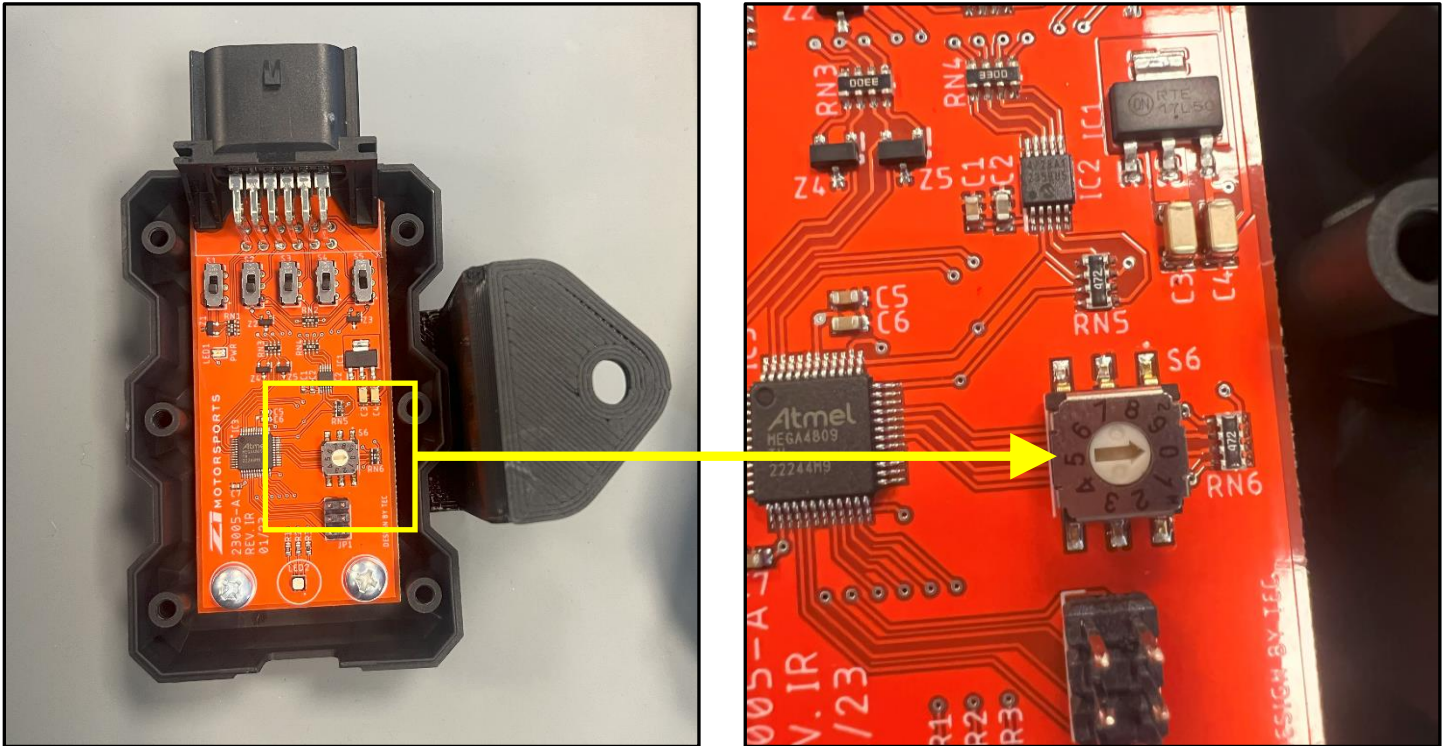

Figure 3
6. There is a Rotary Switch on the board inside of the DISCO Box. You will need to pick between setting **0** or setting **1**. Using a tiny flat head screwdriver, rotate the rotary switch to the appropriate setting explained below. *Figure 3*.